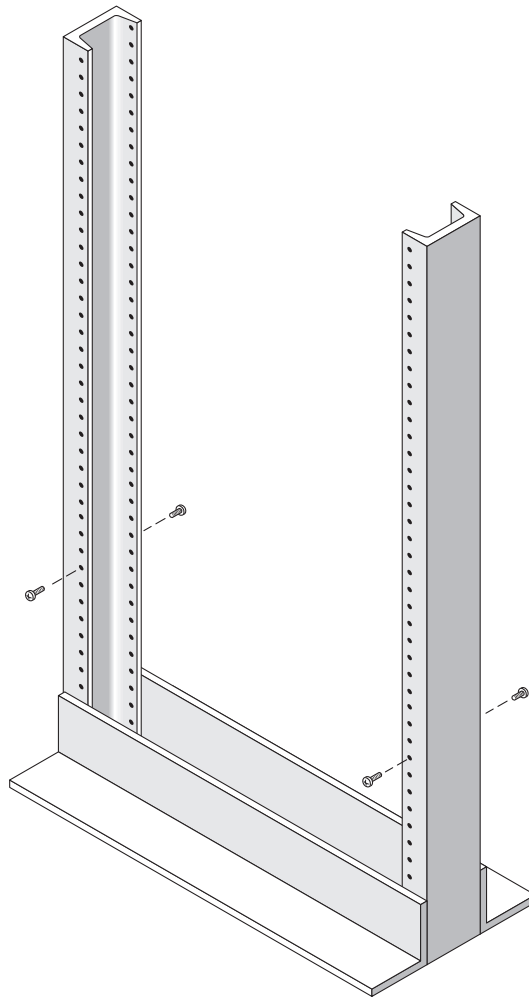

FIGURE C-1 Inserting Screws in the Front and Back Mounting Holes
1. Insert four (12-24 or 10-32) screws (one in each post side) in the front and back mounting holes of the right and left posts (FIGURE C-1). Do not tighten at this time.